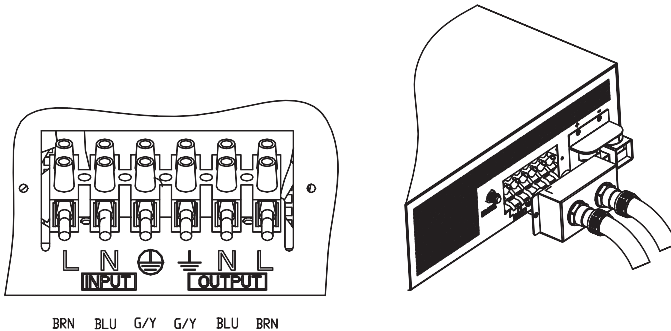

Figure 4 AC Cable Connections to unit
Step 2- Feed the wires through cable clamp and AC cover. See Figure 4.
Step 3- Following the wiring guide located in the AC wiring compartment as Figure 4, connect the GND (green/yellow), Line (brown), and neutral (blue) wires from the AC input (utility, generator, etc) to the terminal block.